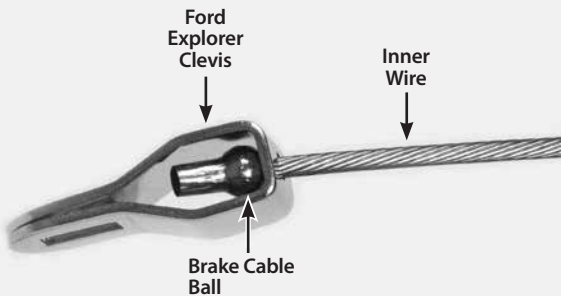

Fig. 6
Step 7: Install the Ford Explorer clevises onto the inner wires by sliding the end of the inner wire without the ball end on it through the 1/8" hole from inside the U-shaped part of the clevis. Pull the inner wire through the clevis until the brake cable ball on the end of the inner wire stops inside the clevis. **Fig. 6**